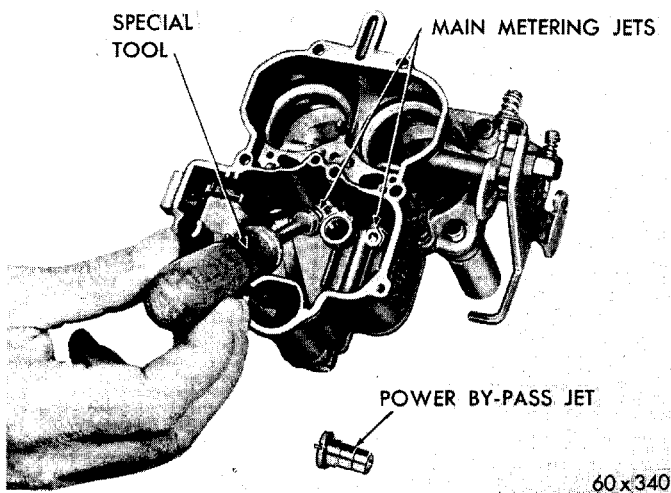

Fig. 11—Removing or Installing the Main Metering Jet
(15) Using Tool T109-173, remove the two main metering jets, as shown in Figure 11.
(16) Remove the two air horn screws, used to hold the main and throttle bodies together. Separate the throttle and main bodies, and discard the gasket.
(1) Place a new gasket on the throttle body, then install main body. Install two short screws to secure.
(2) Install the main metering jets in the main body. Tighten securely, using Tool T109-173. (Refer to Figure 11).